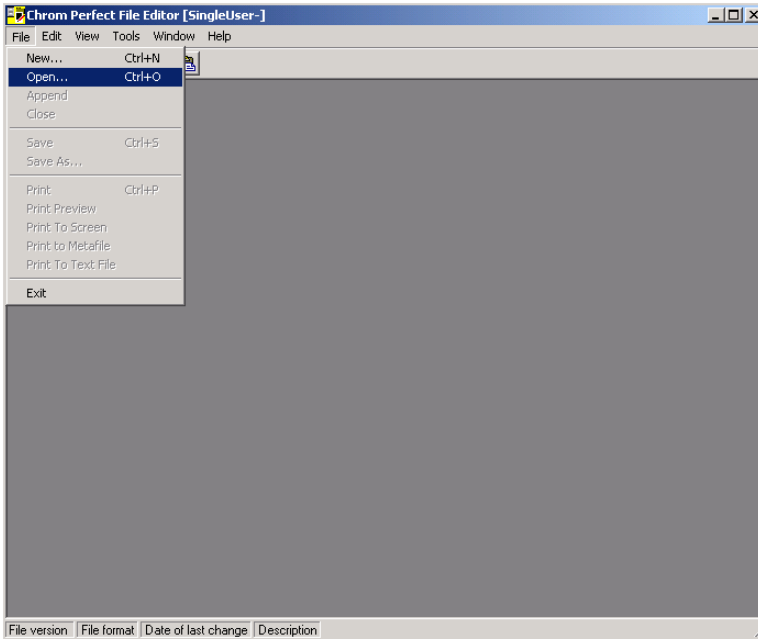

Figure A-25: File > Open Menu
2. In the window, click **File > Open** to open a file (Figure A-25).